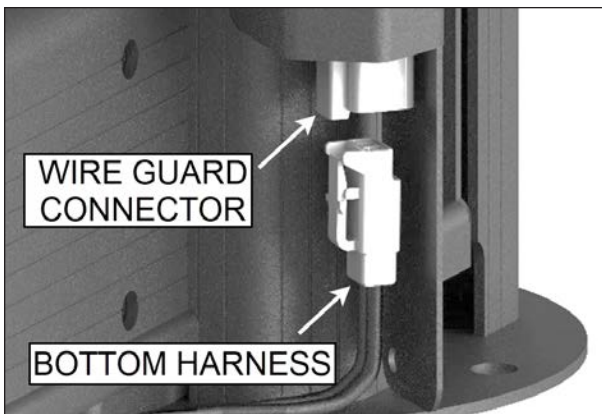

FIGURE 61: WIRE GUARD CONNECTION
- Now connect the bottom harness to the wire guard connector. The bottom harness is attached to the key switch cable. Cut the cable tie that holds the bottom harness. Connect it to the wire guard connector see Figure 61.